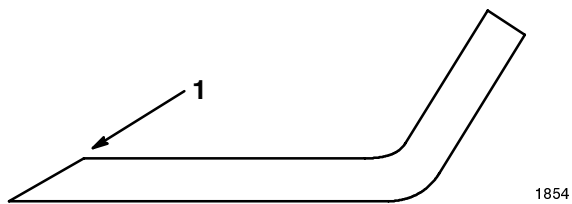

Figure 36
- Use a file to sharpen the cutting edge at both ends of the blade (Fig. 36). Maintain the original angle. The blade retains its balance if the same amount of material is removed from both cutting edges.